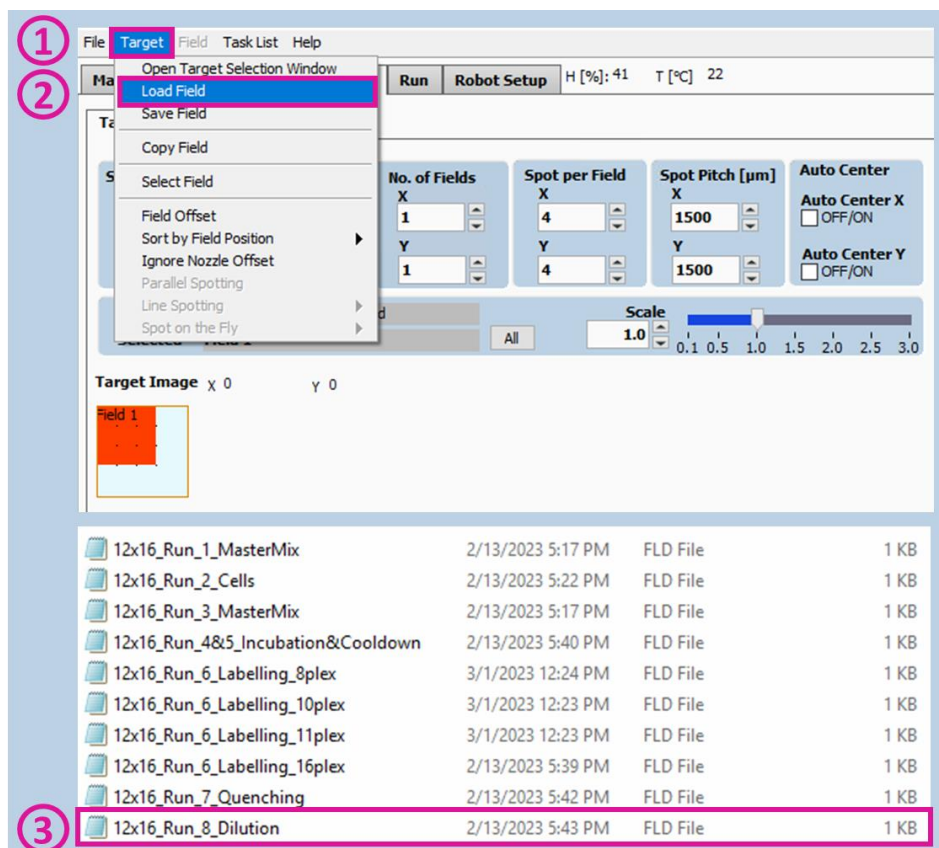

Figure 51: Load Field for Dilution
Load the field “12x16_Run_8_Dilution” which will dispense ~150 nL TFA/FA per well. To load the field, click on “Target” (Figure 51 ①) >> “Load Field” (Figure 51 ②) and select the field corresponding to the run (Figure 51 ③).